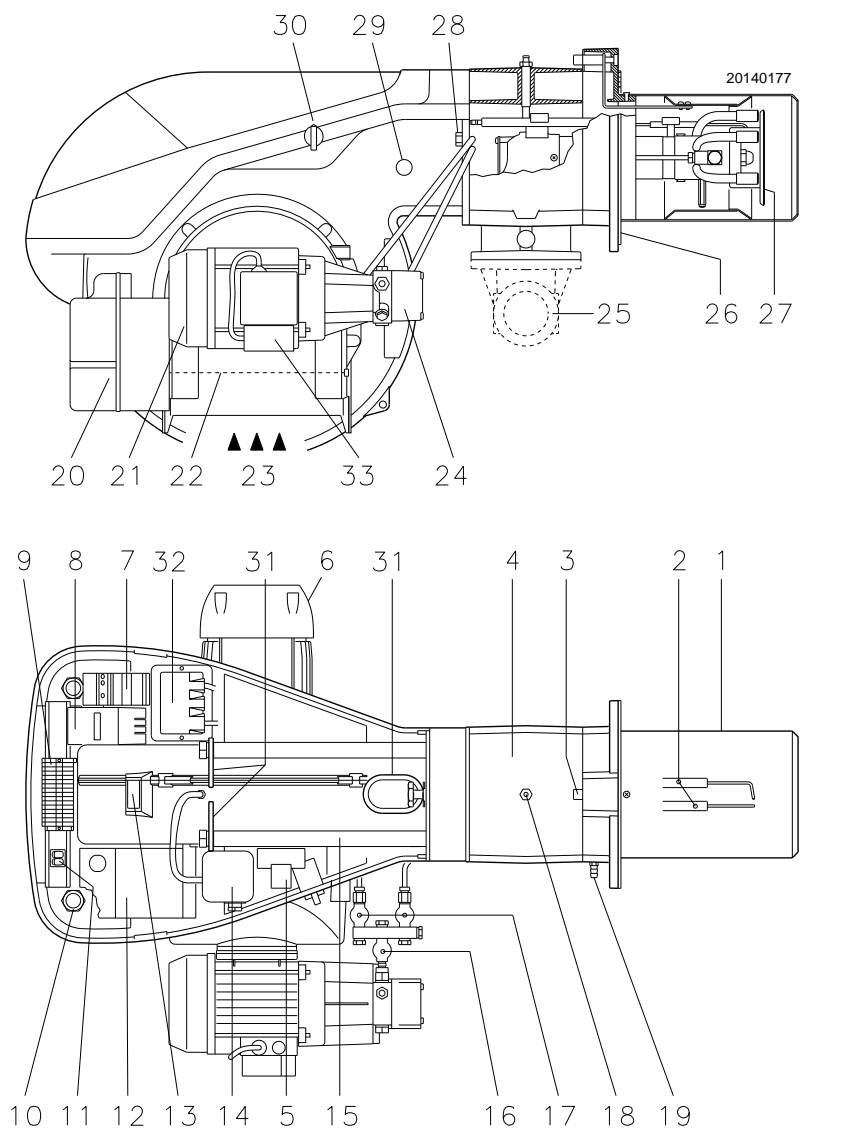

Fig. 4
(1) Reference conditions: Ambient temperature 20°C - Gas temperature 15°C - Barometric pressure 1013 mbar - Altitude 0 m a.s.l.
(2) Pressure at test point 7) (Fig. 4) with zero pressure in combustion chamber and at maximum burner output.
(3) Sound pressure measured in manufacturer's combustion laboratory, with burner operating on test boiler and at maximum output. The sound power is measured using the "Free Field" method, required by the EN 15036 standard, and according to an "Accuracy: Category 3" measurement, as described in EN ISO 3746.
(4) Blast tube: short-long
if the control box 12)(Fig. 4) push-button lights up, it indicates that the burner is in lockout.
release by pressing the pushbutton on thermal relay 7)(Fig. 4).